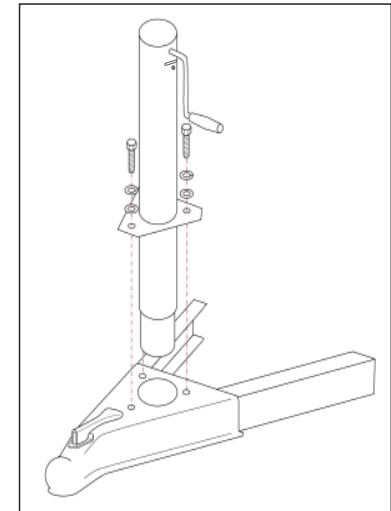

Fig. 2
6. As shown in Figure 2, insert the Husky tongue jack into the hole provided on the top of the A-frame coupler, making sure you align the holes in the mounting plate with the holes in the coupler.
7. Secure the jack with three (3) SAE grade 5 bolts by installing the flat washers, then the lock washers, and then the bolts using a 9/16" wrench. The bolts should be tightened to 15-20 foot-pounds torque.